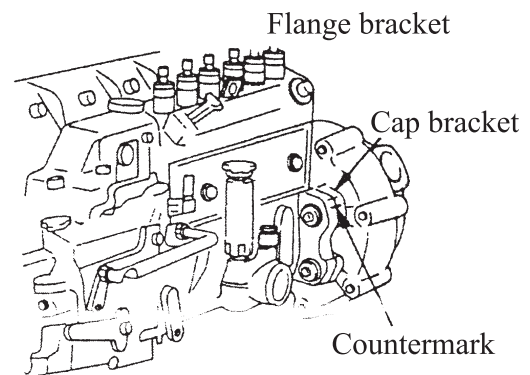

Fig. 1-14
(1) First make sure if the “assembly mark” on the flange of oil injection pump are in conformity with each other, See Fig. 1-14.